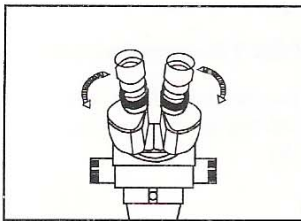

Fig. 4
- 1) Adjust the prism housing along the direction of arrowhead of the Fig.4 till the observation is comfortable.